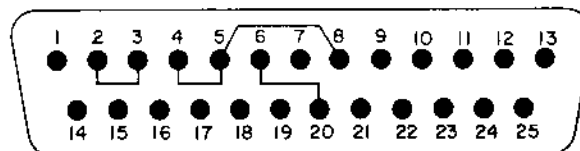

Figure 4-1. RS-232 Test Plug Wiring Diagram
** RS-232 25-pin D-subminiature female connector wired in accordance with figure 4-1.